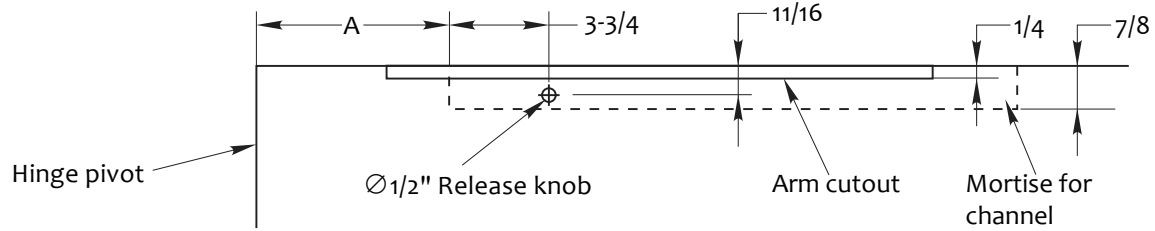

Figure 3 Door top rail mortise and arm clearance cutout
- Drill a 1/2" hole for release knob, 3-3/4" from dimension A, and 11/16" below the door top edge. (Figure 3)